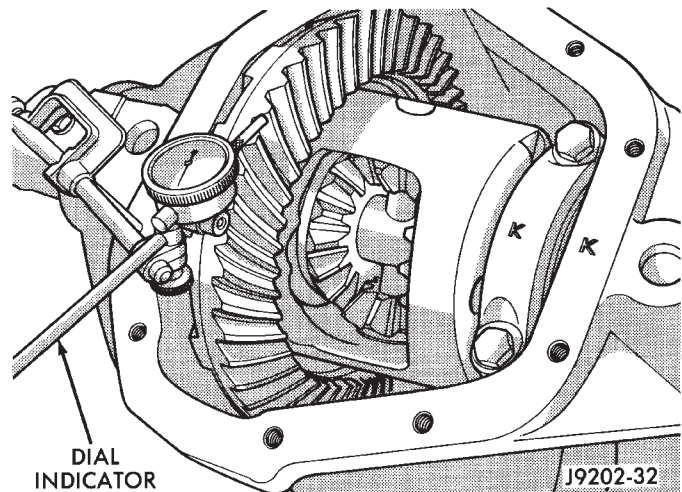

Fig. 73 Ring Gear Backlash Measurement
(31) Install new side bearing cones and cups on differential case.
(32) Install spreader W-129-B on axle housing and spread axle opening enough to receive differential case.
(33) Install differential case in axle housing. Refer to Differential Removal and Installation paragraph.
(34) Remove spreader from axle housing.
(35) Rotate the differential case several times to seat the side bearings.
(36) Position the indicator plunger against a ring gear tooth (Fig. 73).
(37) Push and hold ring gear upward while not allowing the pinion gear to rotate.
(38) Zero dial indicator face to pointer.